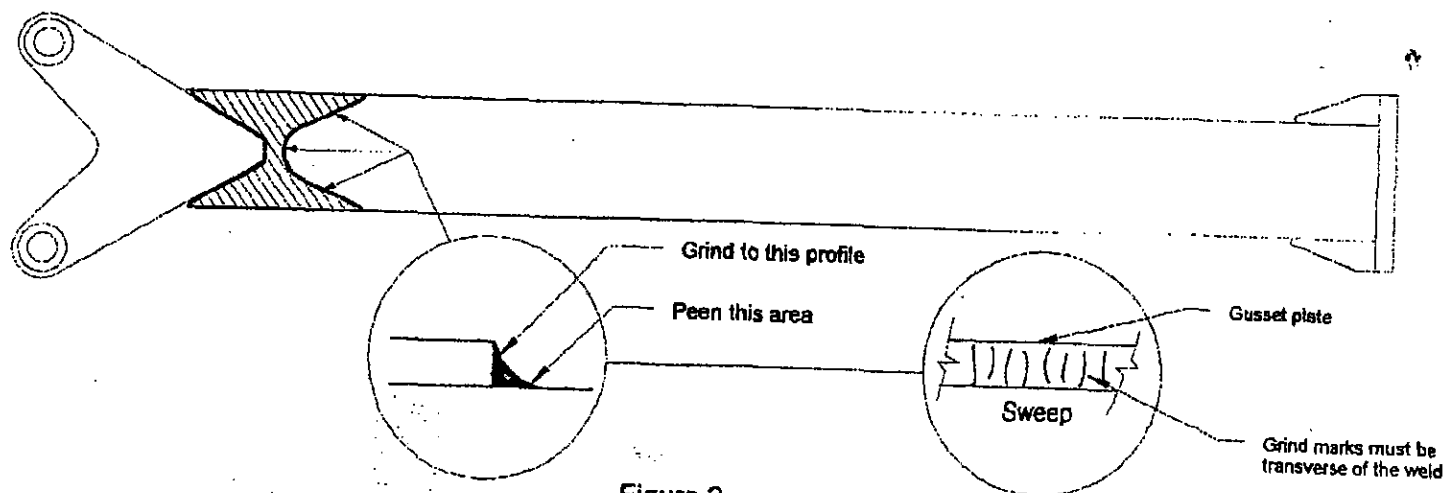

Figure 2
- Step 6: lay Gusset plate approximately 1/8 inch from base of weld on Triangular hinge plate. (See figure 2 drawing SOSA010C)
- Step 10: Grind weld on vehicle side of gusset as described in figure 2 drawing SOSA010C. Grinding must be transverse of the weld axis.
- Step 11: Peen weld with blunt instrument at the toe of the weld on top flat part of sweep as described in figure 2 drawing SOSA010C.
- Step 20: Taper weld at end of side gusset as described in figure 2 drawing SOSA010E.